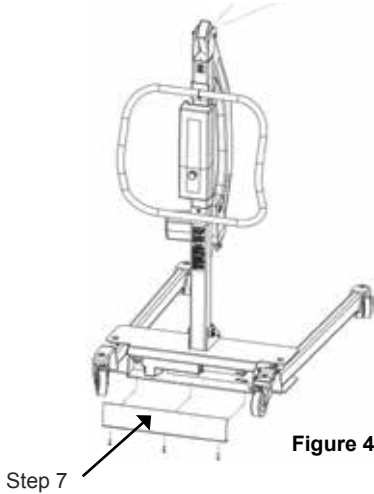

Figure 4
7. Attach the front and rear covers (Figures 4 and 5), using the screws provided.